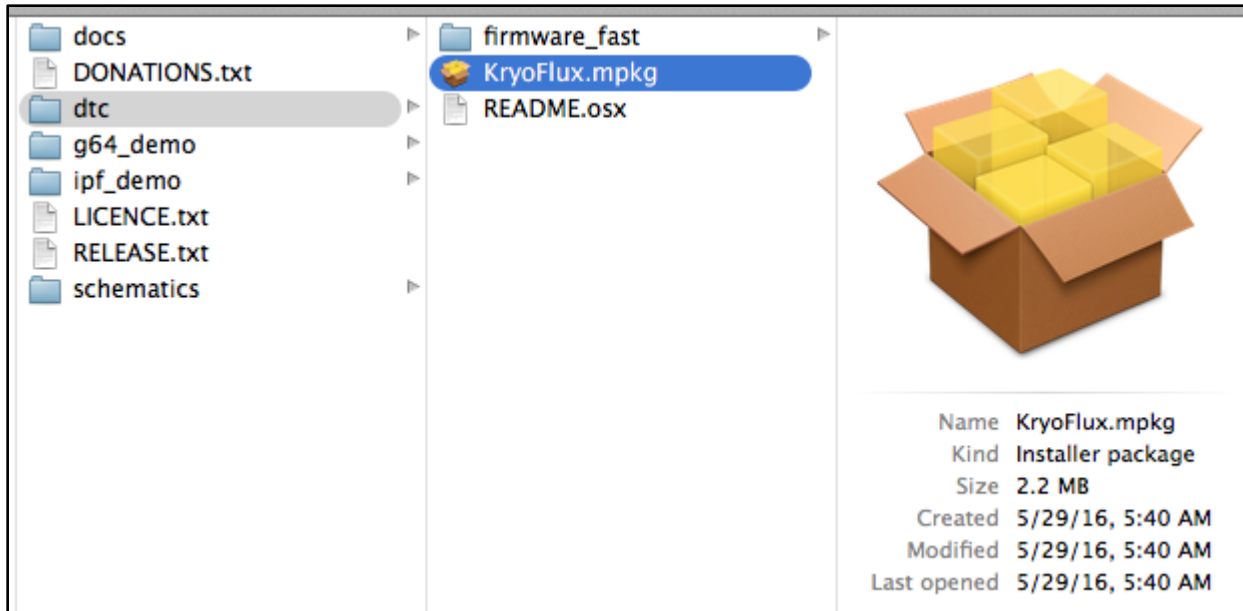

Figure 2: If using MacOSX, double-click KryoFlux.mpkg to install DTC.
- a. Double-click KryoFlux.mpkg (see figure 2);